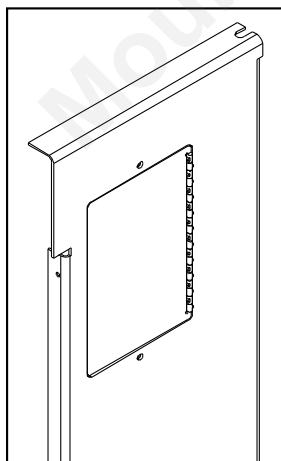

Figure 31: Control Panel Cover.
4. Plug the wiring harness into the control panel (see Figure 31).